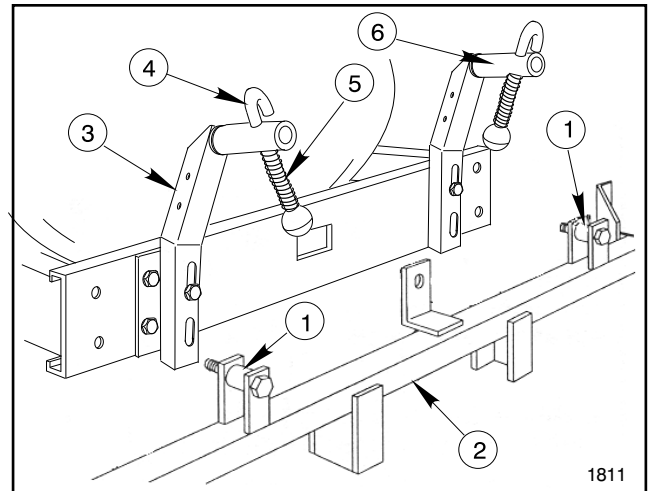

FIG. 1
1. Attach the two (2) "Z"-shaped Boom Mounting Brackets to the rear of the trailer frame using four (4) 1/2" x 1-1/4" cap screws and lock nuts.
2. Attach the two (2) Boom hold-in assemblies to the Boom Mounting Brackets as shown in FIG. 1. 1. Use 2 (2) 1/2" x 1-1/4" cap screws and lock nuts in the upper holes. Do not tighten bolts until hold-in assemblies have been adjusted for height with folded boom.
3. Position a Spacer Tube between the lugs on each side of the Main Frame tube. Insert a 1/2" x 2-3/4" Grade 8 cap screw through the lugs and spacers. Secure the Main Frame to the Boom Mounting Brackets with flange nuts, (See FIG. 1).
4. From the end closest to the hole cut off 1" from one of the clear hoses. Install the cut piece on the left-hand Hold-in and install the uncut hose on the right-hand side. Install Clear Hoses, J-Hooks, Springs and Knobs in Boom Hold-ins as shown in FIG. 1.